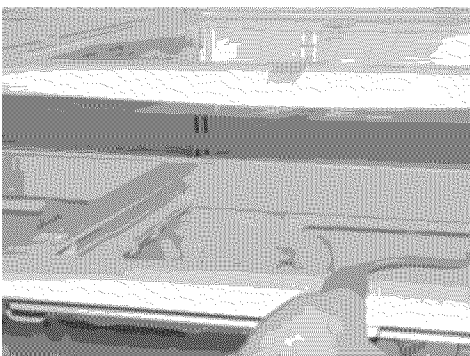
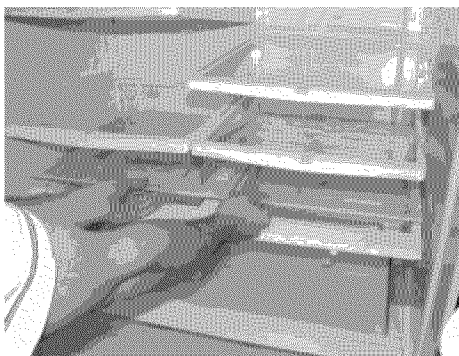
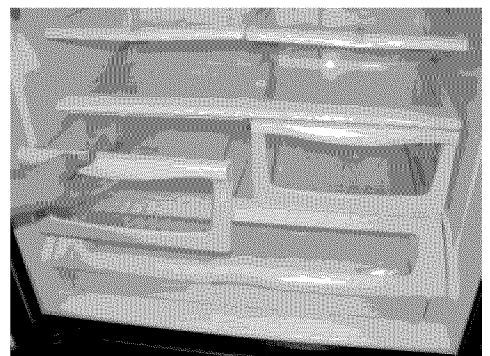

Figure 8
Figure 9
Figure 10
9. Replace crisper frame (*Figure 8*), the crisper glass top (*Figure 9*) and the crisper drawers (*Figure 10*) back into the refrigerator.